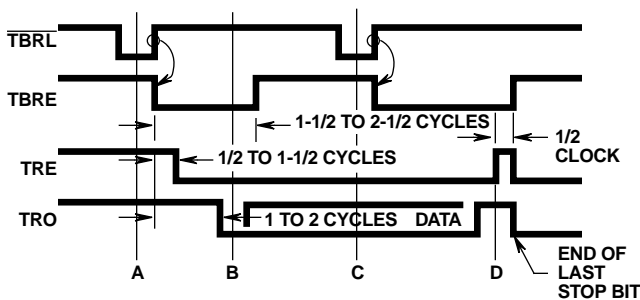

FIGURE 3. TRANSMITTER TIMING WAVEFORMS
Transmitter timing is shown in Figure 3. (A) Data is loaded into the transmitter buffer register from the inputs TBR1 through TBR8 by a logic low on the \overline{TBRL} input. Valid data must be present at least t_{DT} prior to, and t_{DT} following, the rising edge of \overline{TBRL} . If words less than 8-bits are used, only the least significant bits are used. The character is right justified into the least significant bit, TBR1. (B) The rising edge of \overline{TBRL} clears \overline{TBRE} . 1/2 to 11/2 cycles later, depending on when the \overline{TBRL} pulse occurs with respect to TRC, data is transferred to the transmitter register and \overline{TRE} is cleared. \overline{TBRE} is set to a logic High one cycle after that.